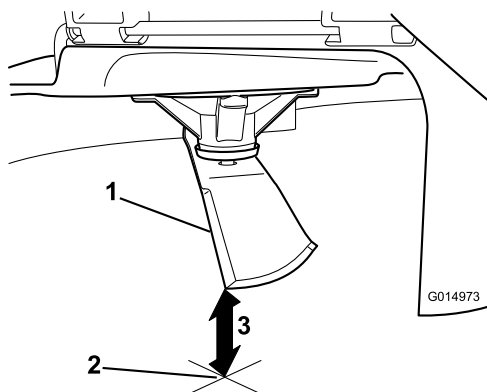

Figure 50
3. Measure from the tip of the blade to the flat surface (Figure 50).